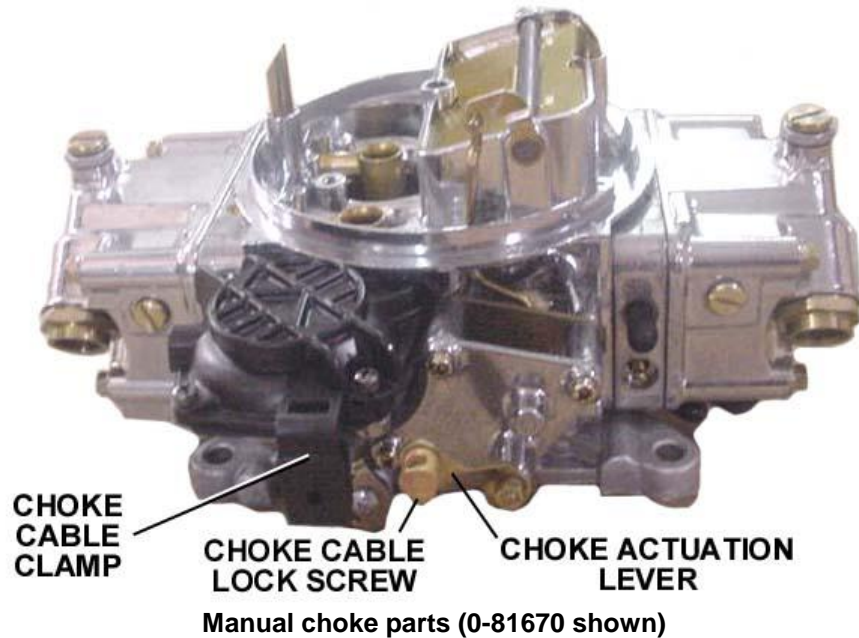

**Figure 9**
3. If the fast idle RPM is too low or too high for your preferences, **TURN THE ENGINE OFF**. Advance the throttle to wide-open, exposing the fast idle set screw below the choke housing (See Figure 9).